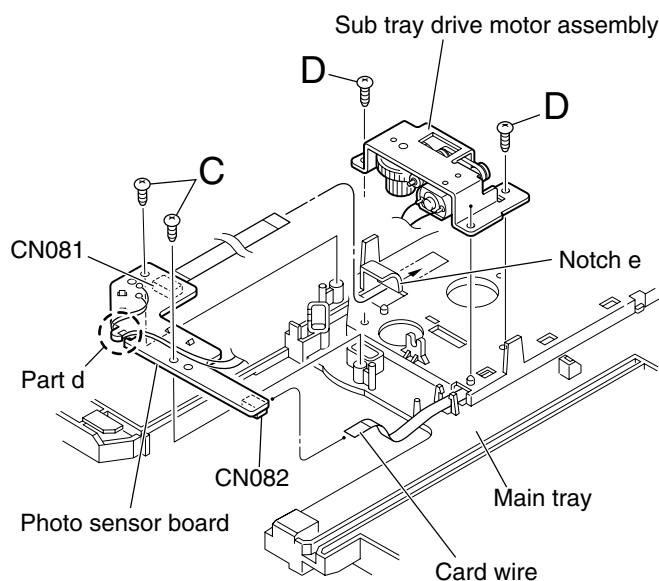

Fig.4
■ Removing the photo sensor board and the sub tray drive motor assembly (See Fig.4)